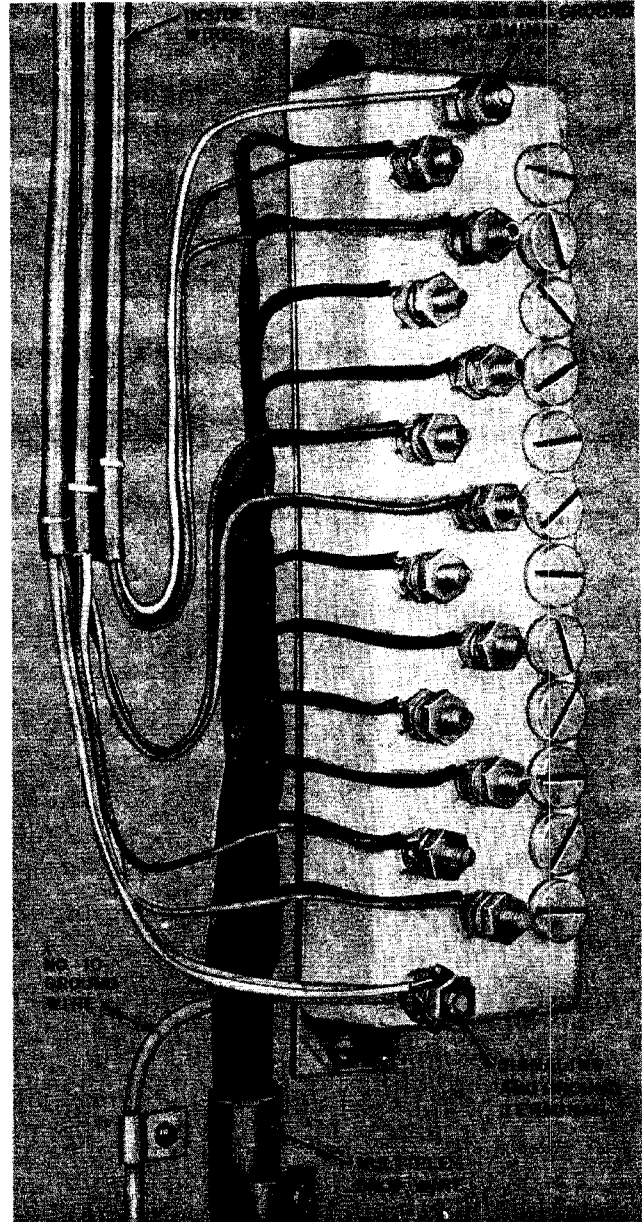

Fig. 9—117B Protector
4.08 The 117B Protector (Fig. 9) is for indoor installation. Drop wire is terminated on the protector in the same manner as outlined for the 116C Protector (4.07). The ground wire is placed under the pronged washer of the protector ground terminal (Fig. 9). The signaling ground binding post is internally bonded to the ground terminal.